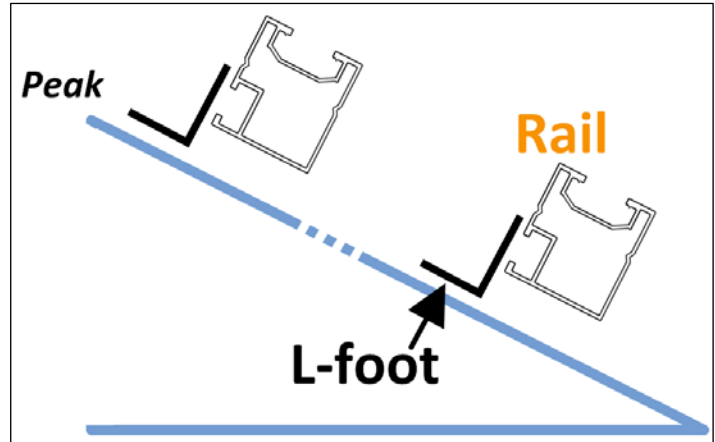
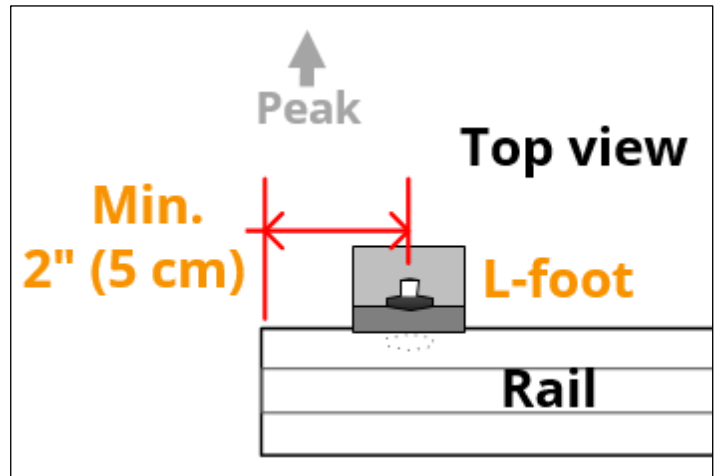
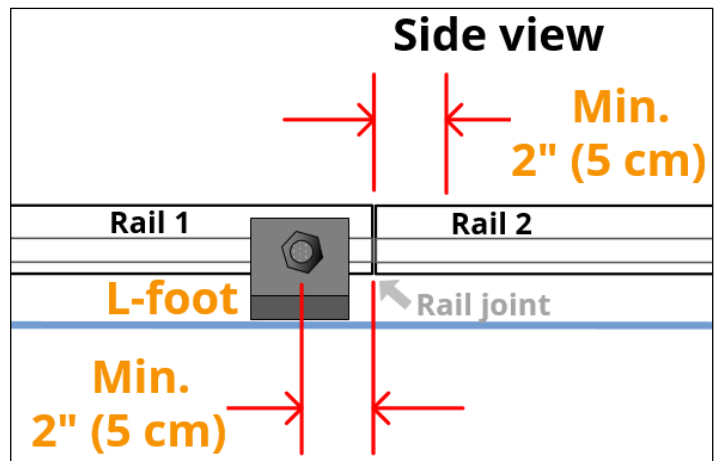

Fig. 5
Fig. 6
Fig. 7
3. Position the rails on the roof, adjacent to the L-feet and such that the side channel of each rail is facing the roof peak (Fig. 3 and Fig. 5).
- Position the rail—with its side channel facing the peak—adjacent to and “below” (relative to the peak) the L-feet for the given row (Fig. 5).
Note: L-feet must only “face” the peak (Fig. 5 and Fig. 6).
- Position the rail bolts a minimum of 2" (5 cm) from the end of a rail (Fig. 6); and a minimum of 2" (5 cm) from any rail joint (Fig. 7).